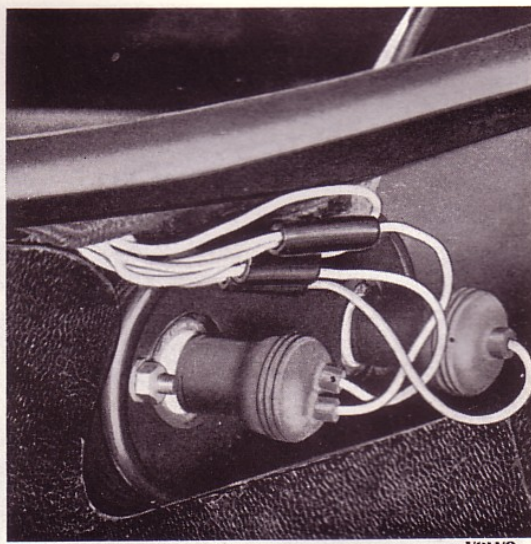

Fig. 90. Rear lamp connecting contacts
3. Disconnect the leads at the connection pieces. See Fig. 90.